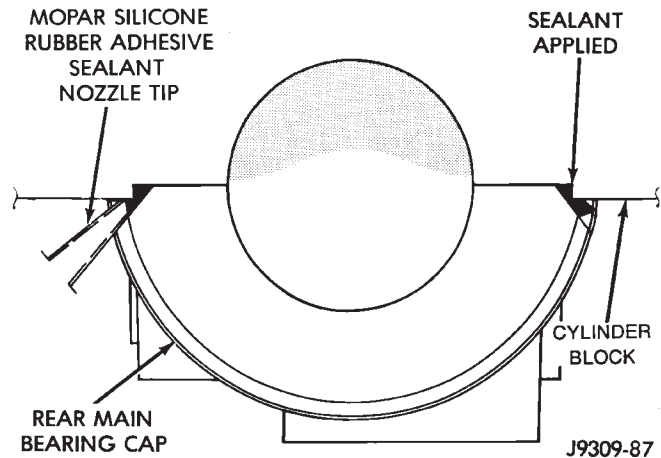

Fig. 42 Apply Sealant to Bearing Cap to Block Joint
- (7) To align the bearing cap, use cap slot, alignment dowel and cap bolts. DO NOT remove excess material after assembly. DO NOT strike rear cap more than 2 times for proper engagement.
- (8) Clean and oil all cap bolts. Install all main bearing caps. Install all cap bolts and alternately tighten to 115 N·m (85 ft. lbs.) torque.
- (9) Install oil pump.
- (10) Install the timing chain cover.
- (11) Install the vibration damper.
- (12) Apply Mopar Silicone Rubber Adhesive Sealant, or equivalent, at bearing cap to block joint to provide cap to block and oil pan sealing (Fig. 42). Apply enough sealant until a small amount is squeezed out. Withdraw nozzle and wipe excess sealant off the oil pan seal groove.
- (13) Install new front crankshaft oil seal.
- (14) Immediately install the oil pan.